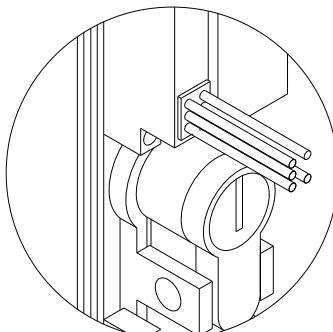

Fig. 2
7. Proceed to wiring. (See Fig. 2)